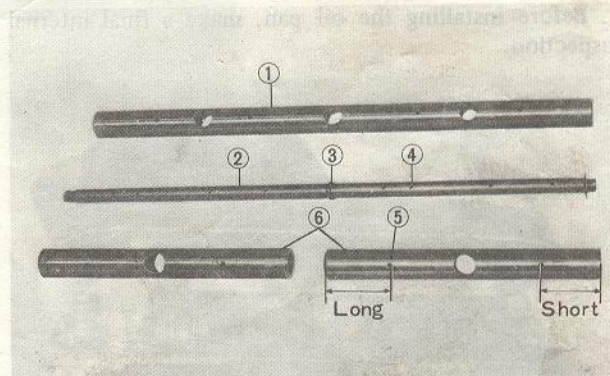

Fig. 1-66 Rocker arm shaft
3. When installing the rocker arm shafts on the intake side, the ends with the longer distance between the oil hole and the tip are turned toward inside each other, as shown in Fig. 1-66.